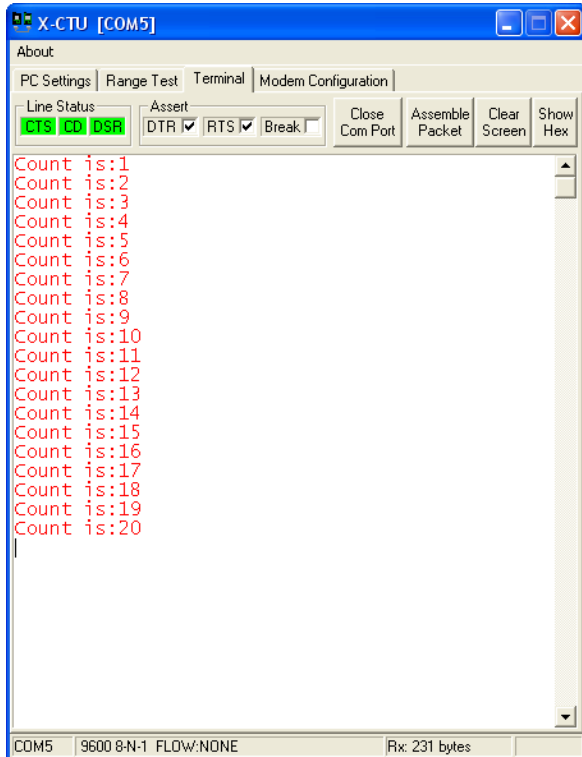

Figure 4-12: Simple Debug Monitoring
- ✓ Download and run the program, monitor the base terminal window as shown in Figure 4-12.